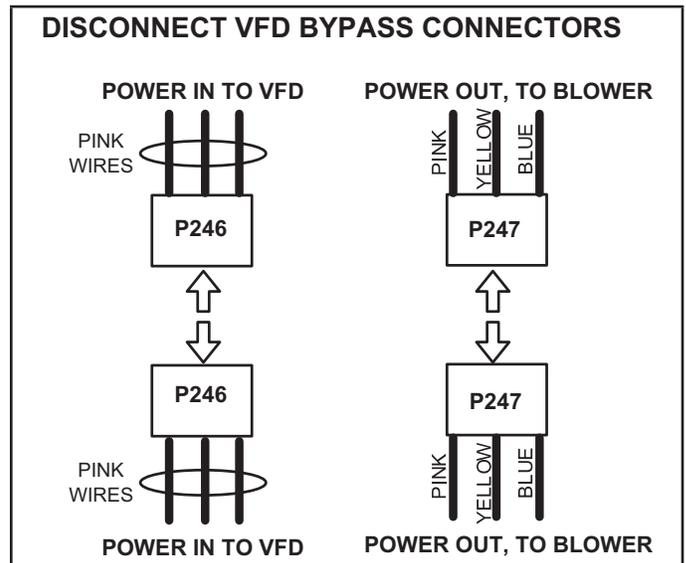

FIGURE 28
- 3 - Disconnect P246 from P246 (power in to VFD) and P247 from P247 (power out to blower). See FIGURE 28.